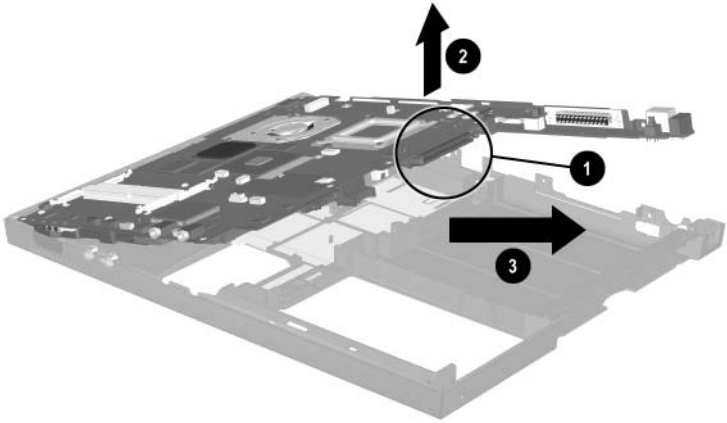

Figure 5-25. Removing the System Board
8. Use the Media Bay connector ❶ to lift the right side of the system board ❷ until it rests at a 45-degree angle (Figure 5-25).
9. Slide the system board out of the base enclosure at a 45-degree angle ❸.